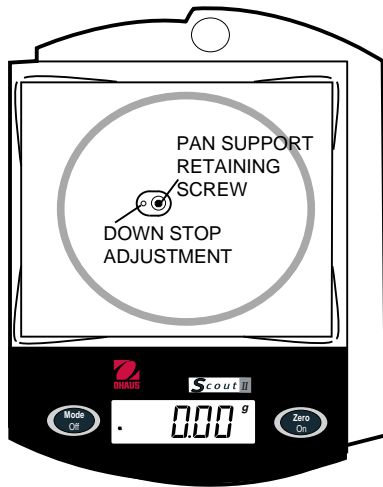

Figure 4-7. Pan Support Removal.
2. Remove the Pan (6) from the balance.
3. Hold the Pan Support firmly to prevent it from twisting and remove the Pan Support Retaining screw (B) and the Pan Support (5) from the balance. See Figure 4-7. **Note: Allowing the Pan Support to rotate may damage the Transducer.**